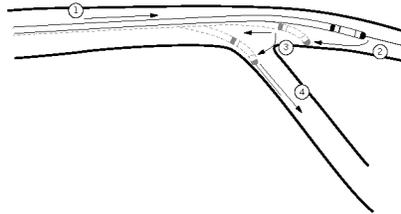

Figure 14. Lead placement using the Retract or Pull Method with a guide wire.
1. Advance the lead, pre-straightened with a guide wire extending ahead of the lead, past the junction of the branch vein (Figure 14).
2. Retract the guide wire to allow the lead to reform its curve (Figure 14).
3. "Drag" the lead backwards to allow it to deflect into the target branch (Figure 14).
4. Advance the lead further into the branch vein, using the guide wire as necessary (Figure 14).